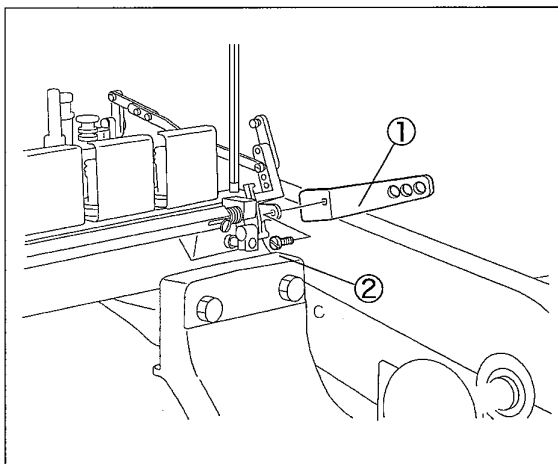

Fig. 2-12
Set the presser foot connecting lever① with the screw②. (Fig.2-12)